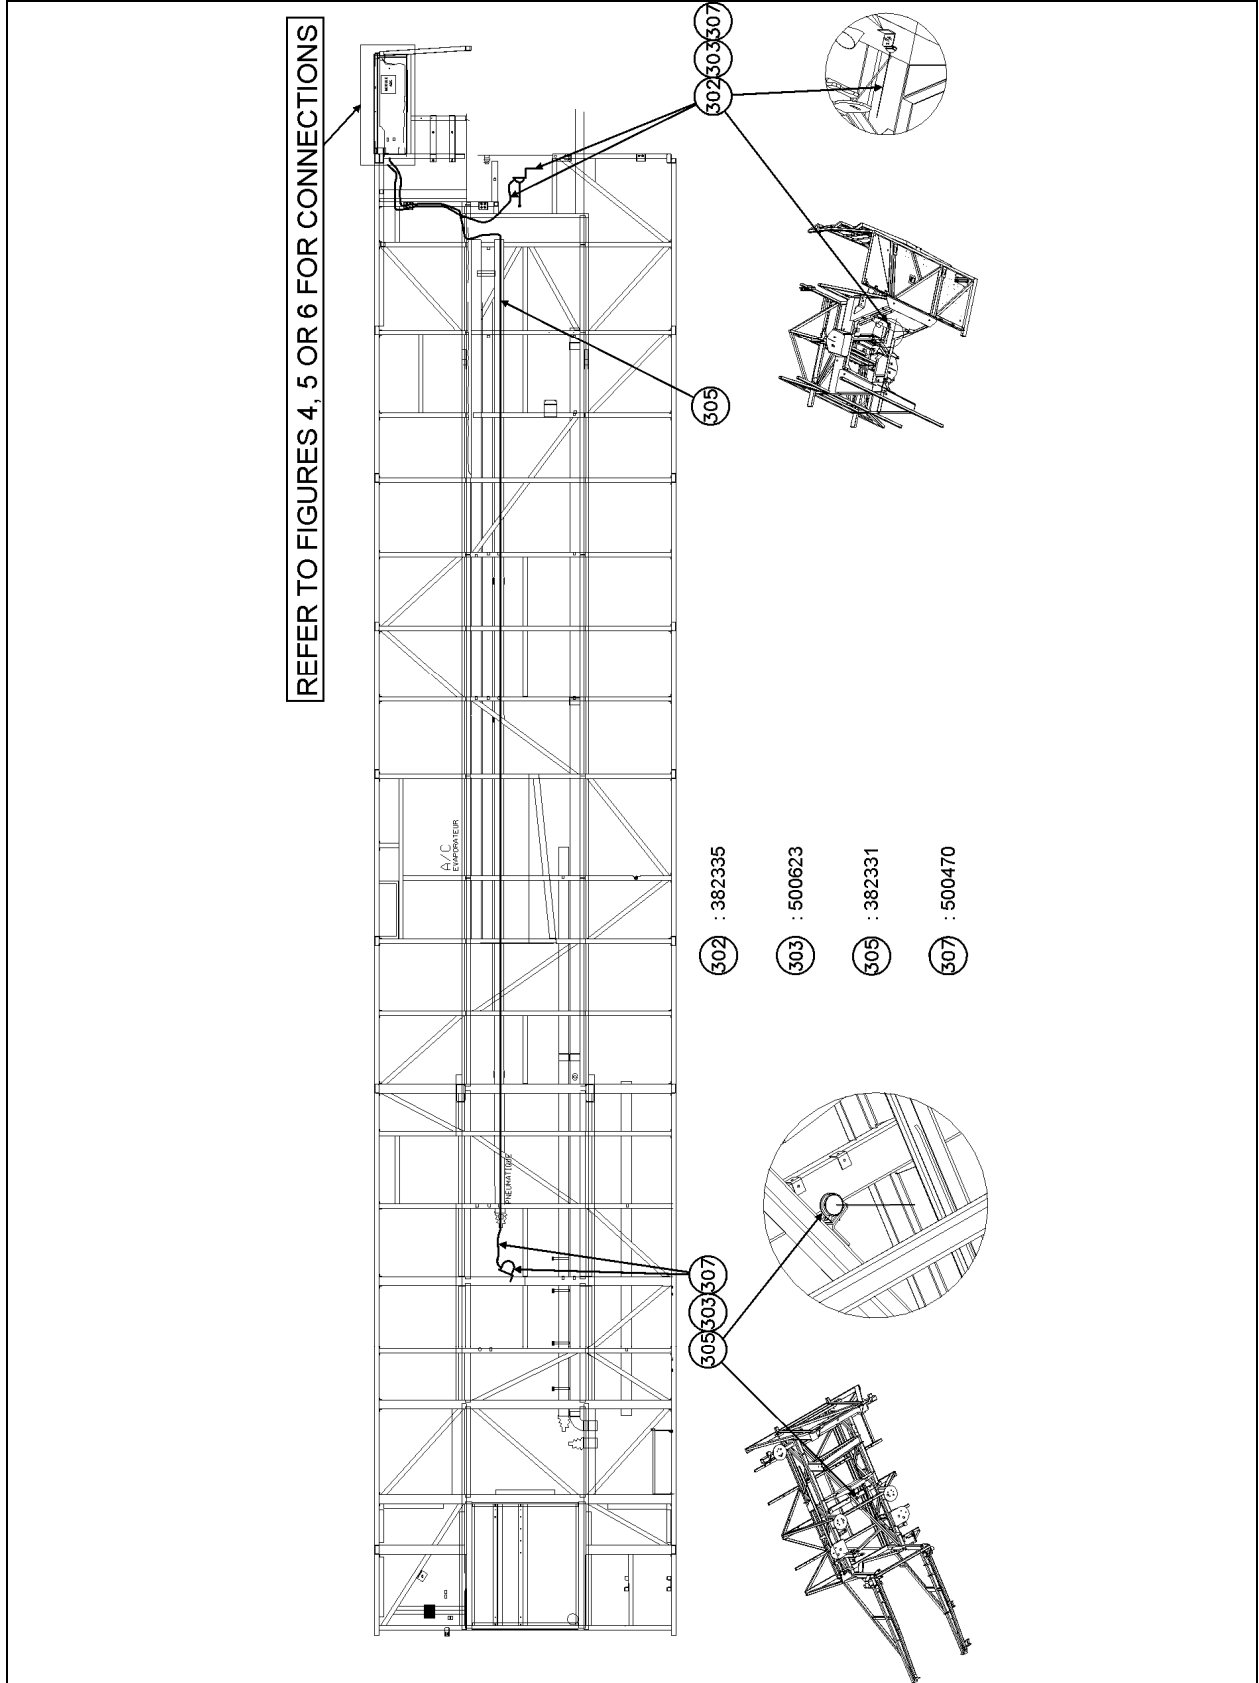

FIGURE 3
3. Make sure that the antenna points downwards then route cable between the antenna and the front junction box as per figure 3.
5. Make sure that the antenna points rearwards then route cable between the antenna and the front junction box as per figure 3.